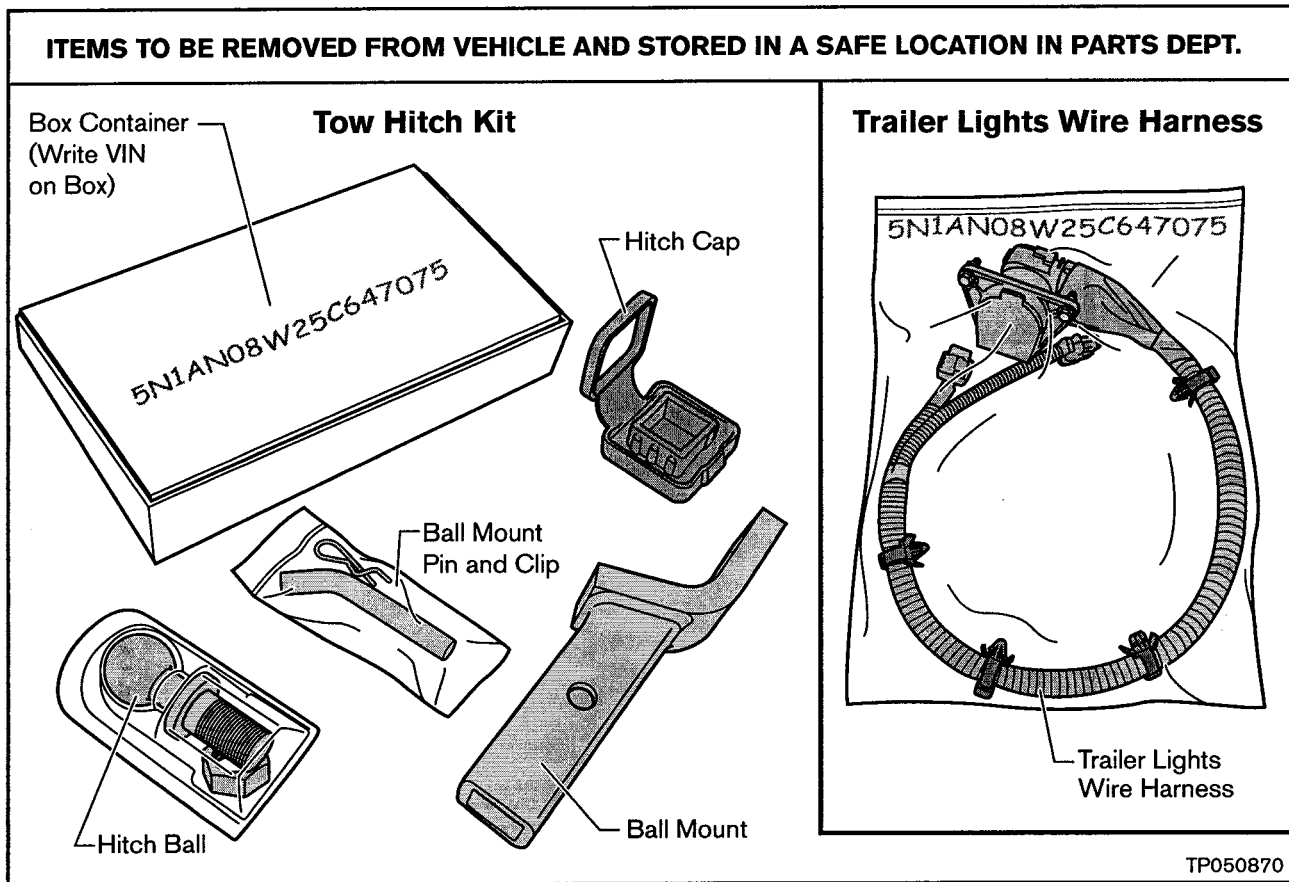

Figure 15
17. Store the Trailer Lights Wire Harness with the Tow Hitch Kit components for this vehicle (see Figure 15) in a safe location within the dealership (for example, Parts Department). These stored components will be re-installed when a replacement Tow Hitch is installed.